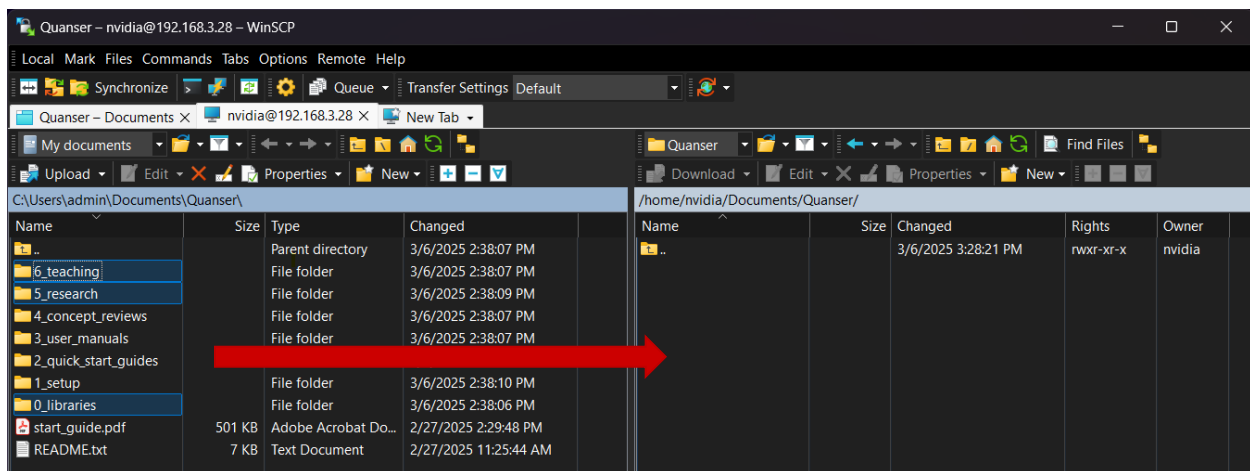

Figure 2. Transferring files to QCar
2. Using WinSCP, on your PC side, navigate to **Documents/Quanser**. On the QCar 2 side, navigate to your new *Quanser* folder. Your WinSCP window should look like figure 2. From your PC side, copy/drag the **0_libraries**, **5_research** and **6_teaching** folders over to your new Quanser folder in the QCar2.